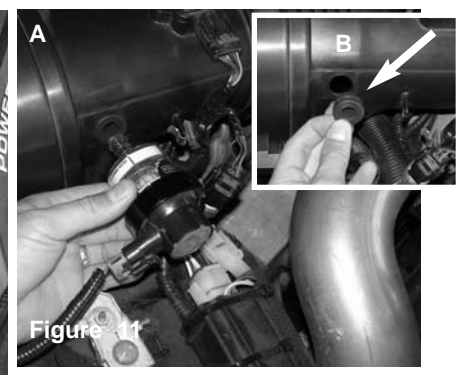

Figure 11
Reuse the factory grommet removed from the factory air box for the restrictor from figure 11 (B) and connect it to the Injen air box plenum Picture shown grommet mounted to air box plenum.